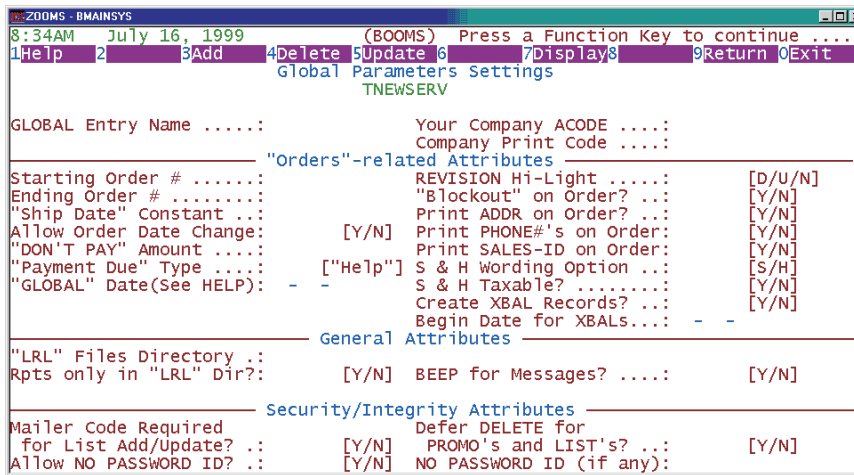

Figure 24.1. Sample Global Parameters Settings Screen
- Replacing of the System Parameters Menu by the Global Parameters Settings Screen (Figure 24.1)